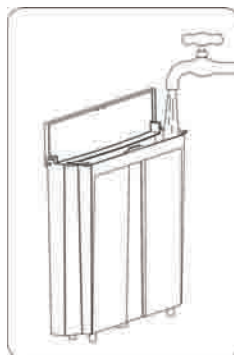

Fig. 2
- Open the cover of the water tank (1) and fill it with cold, fresh water (Fig.2). The MAX mark shall not be exceeded.
- Put the tank (1) back and press it.
- Close the cover of the tank (1).